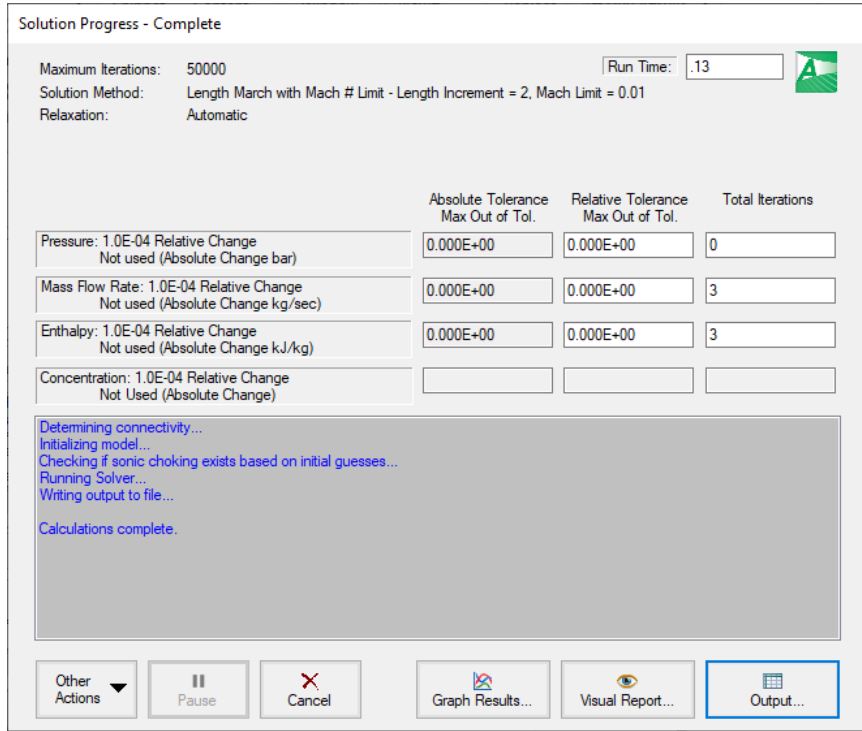
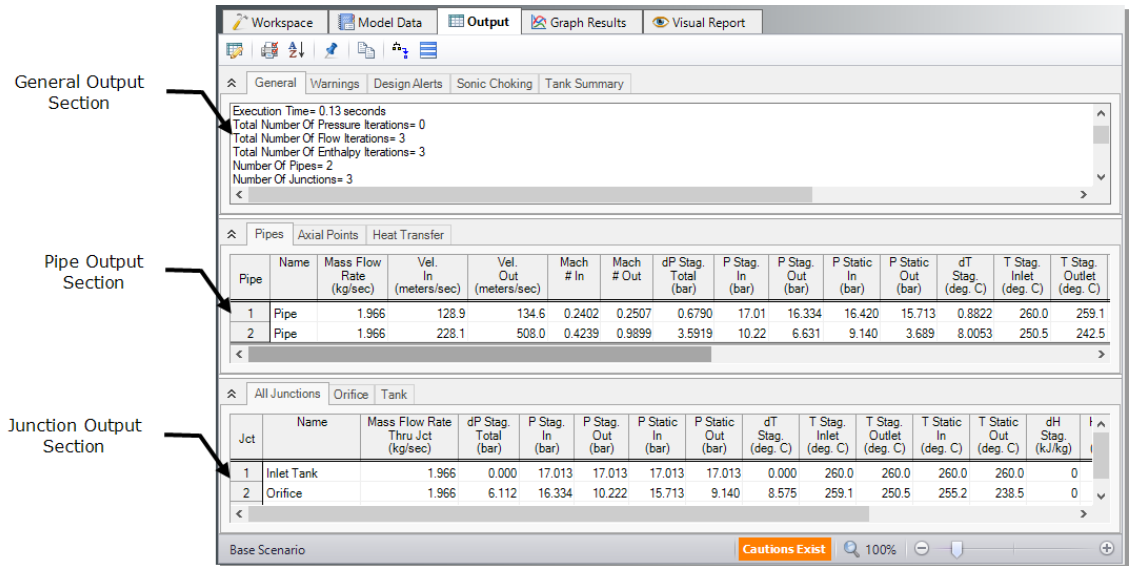

Figure 2.14 The Solution Progress window displays the convergence progress
Figure 2.15 The Output window displays output in text form
- Choose “Run Model” from the Run Model icon on the Main Toolbar or the Analysis menu. During execution, the Solution Progress window displays (see Figure 2.14). You can use this window to pause or cancel the Solver's activity. When the solution is complete, click the Output button and the text-based Output window will appear (see Figure 2.15). The information in the Output window can be reviewed visually, saved to file, exported to a spreadsheet-ready format, copied to the clipboard, printed to an Adobe PDF file, and printed out on the printer.
The Output window (Figure 2.15) is similar in structure to the Model Data window. Three areas are shown, and you can expand or collapse each area by dragging the boundary between the areas up or down, or by clicking the arrow beside the area label. The items displayed in the tables are those items you choose in the Output Control window.